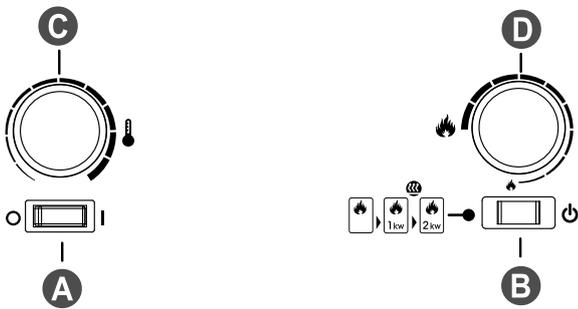
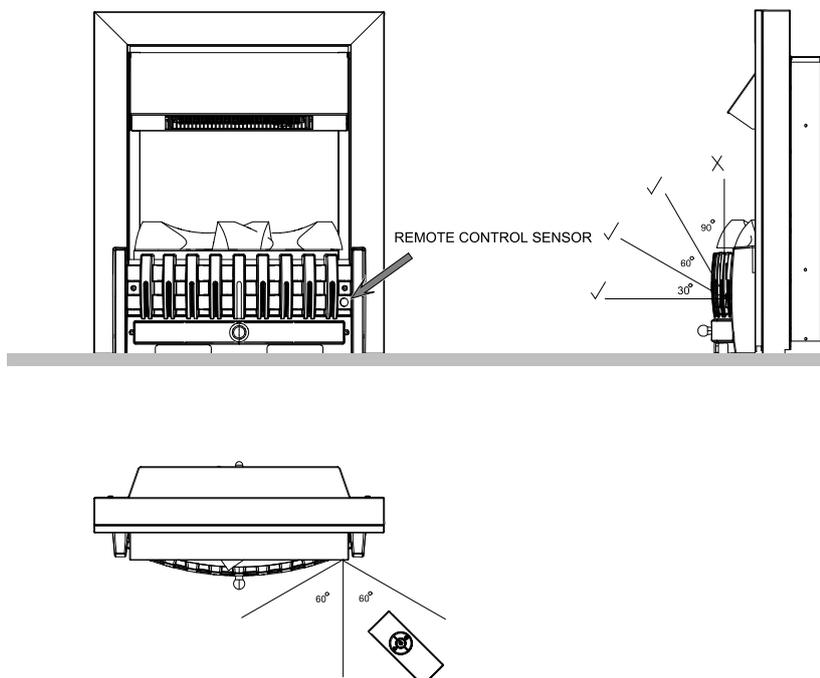

Fig.2
Fig.12
4. The flame control knob 'D' Fig.2 may be turned up or down to give a more realistic effect.
1. Press Switch 'A' to **(0)** (See Fig.2)
9. Press Switch 'A' to 'ON' (I) position (See Fig.2)
1. Press Switch 'A' to the 'OFF' (0) position (See Fig.2)
7. Press Switch 'A' to the 'ON' (I) position (See Fig.2)
| The flame effect is too low. | <p>Flame effect control knob is set too low. (See Fig.2)</p> <p>The Metal Disc in the transducer might be dirty (See Fig.12)</p> <p>The wire from the Transducer Unit is sitting over the metal disc</p> | <p>Increase level of flame by turning Control knob 'D' anti clockwise slowly. (See Fig.2)</p> <p>Clean the Metal Disc with soft brush supplied. (See Fig.12) See 'Maintenance.' for a step by step procedure.</p> <p>Direct the wire to the back of the sump and make sure it sits into the side slot exiting the sump.</p> |
| The flame effect has too much smoke. | <p>Flame effect setting is too high.</p> | <p>Turn the flame effect Control knob C clockwise, about ¼ a turn, at a time. Give the flame generator some time to adjust to the new setting. (See Fig.2)</p> |
| Main lamps are not working and there are no flames or smoke. | <p>There is no water in the water tank</p> | <p>Follow instructions under Maintenance, 'Filling the water tank'.</p> <p>Check the plug is connected to the wall socket correctly and that Switch 'A' Fig. 2 is in the 'ON' (I) position.</p> |